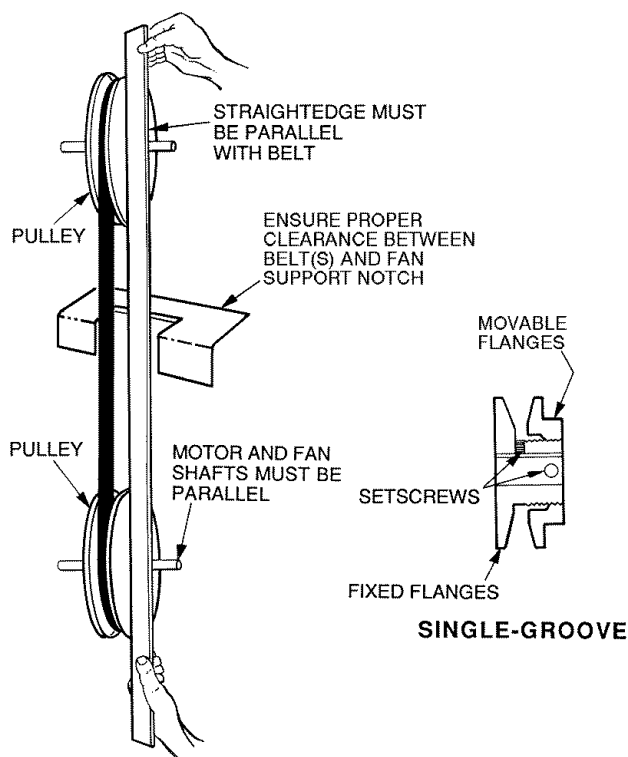

Fig. 48 — Evaporator-Fan Alignment and Adjustment
3. Loosen movable-pulley flange setscrew (see Fig. 48).